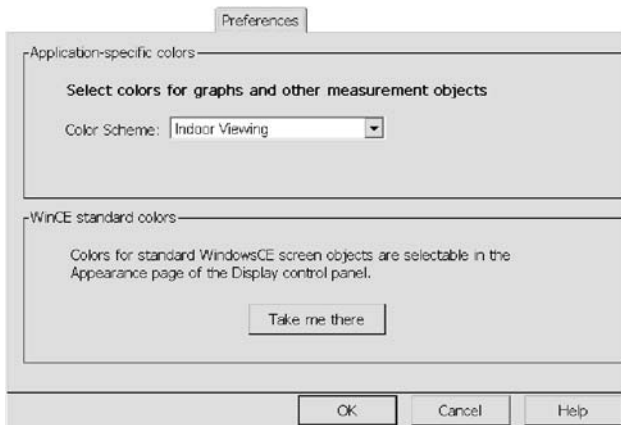

Figure 2-14: Preferences tab showing available color schemes
2. Tap the **Preferences** tab. See Figure 2-14.